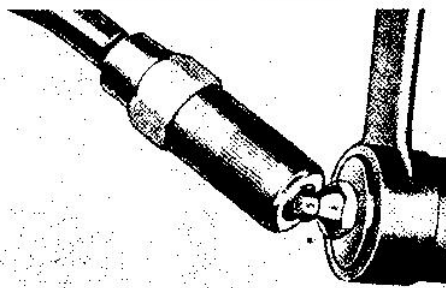

FIG. 7 - Disengaging the 6594 Gun from Hydraulic Fitting.
- d. Remove coupling from fitting by pulling up to one side (Fig. 7).